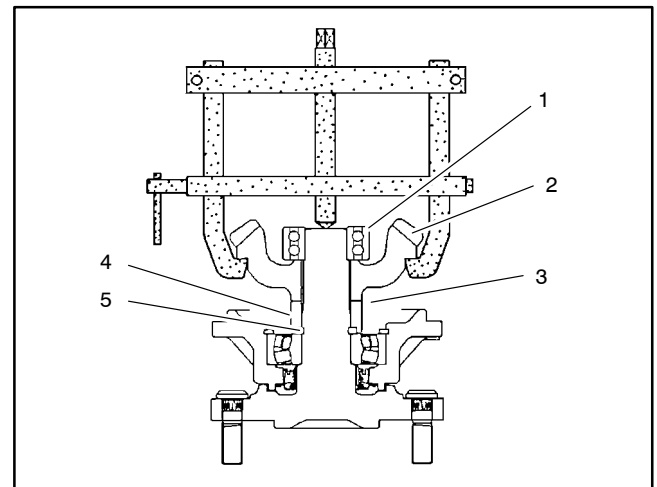

Figure 16
2. Use a bearing puller to remove the bearing and bevel gear as shown (Fig. 16).